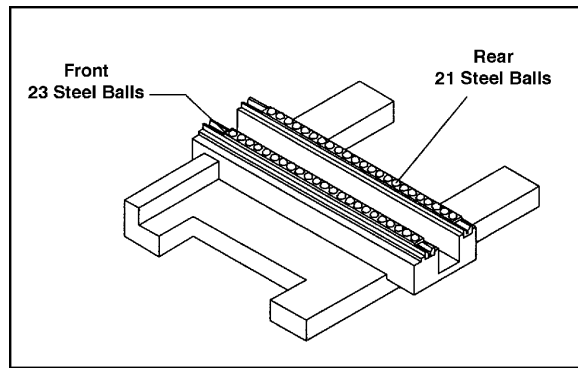

Figure 3
4. Place the 23-bearing section on the front slide way, and the 21-bearing section on the rear slide way. See Figure 3. Center the bearing strips on the rail with a measuring device.